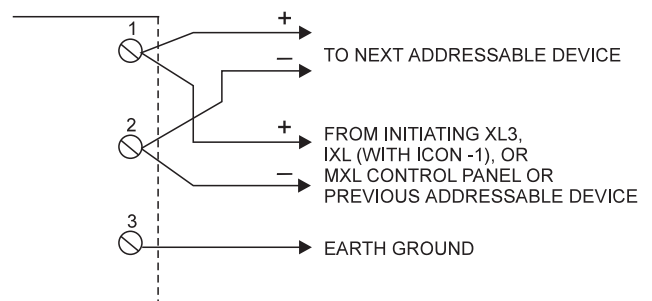

Figure 2
8. Wire the MSI to the System (Refer to Figure 2 for proper connections).